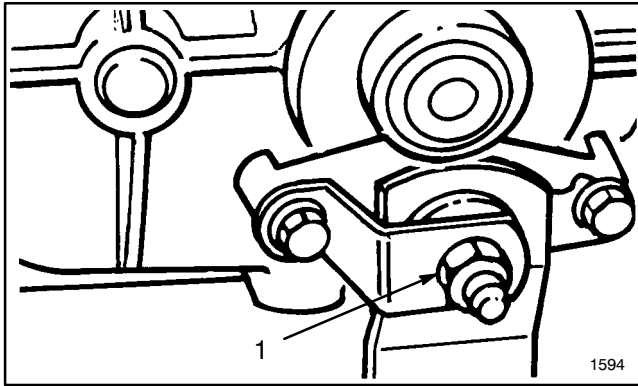

Figure 25
3. Tighten locknut approximately 1/4 turn clockwise (Fig. 25).